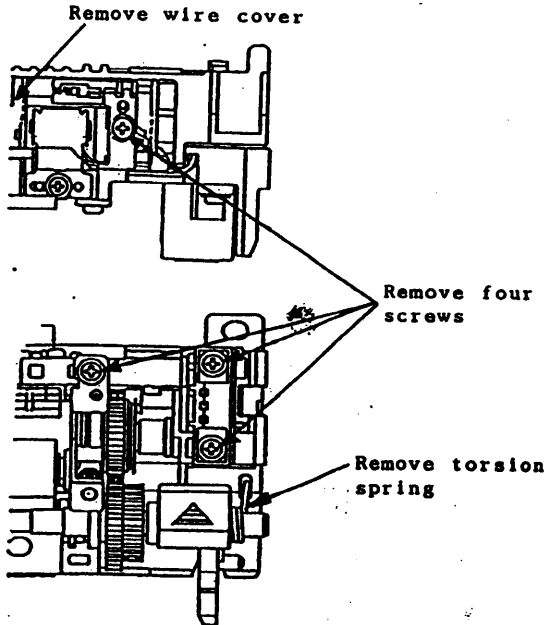

Figure 4
3. Remove the wire cover of the Fixing Assembly (figure 4).
4. Remove four screws (figure 4).
5. Disconnect the torsion spring (figure 4).